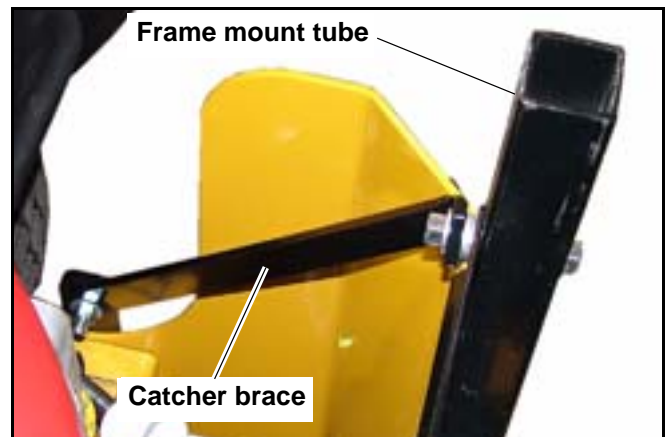

Figure 3-8
4. Attach the two catcher braces to the frame mount tube. Fig. 3-8